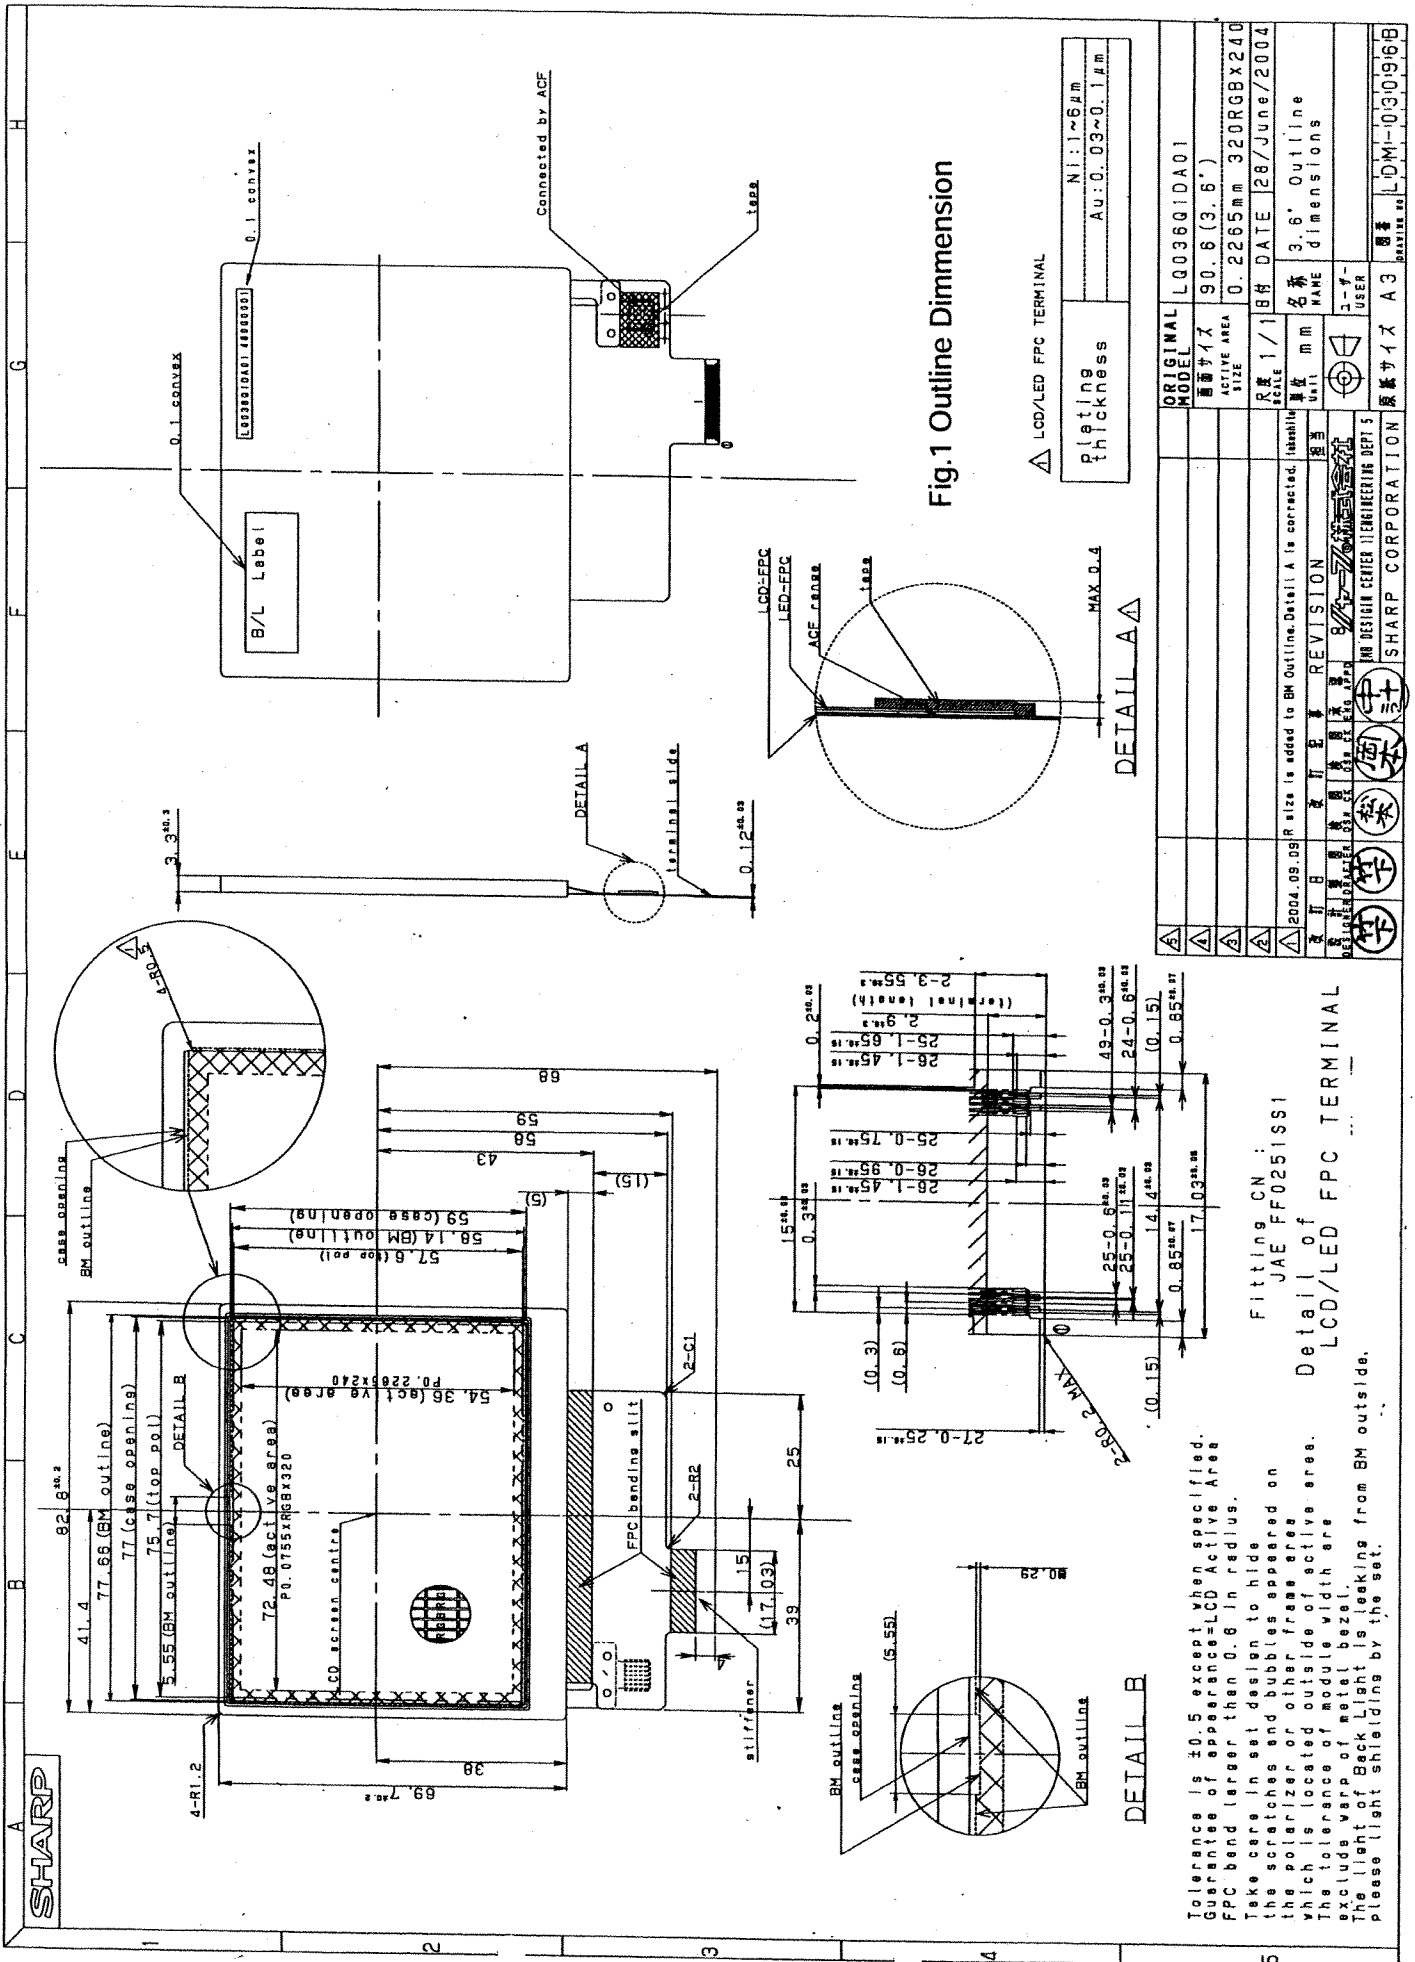

Fig.1 Outline Dimension
See Fig. 1
② Bending endurance of the bending slits portion(See Fig.1):
The lot number is shown on a label. Attached location is shown in Fig.1 (Outline Dimensions).